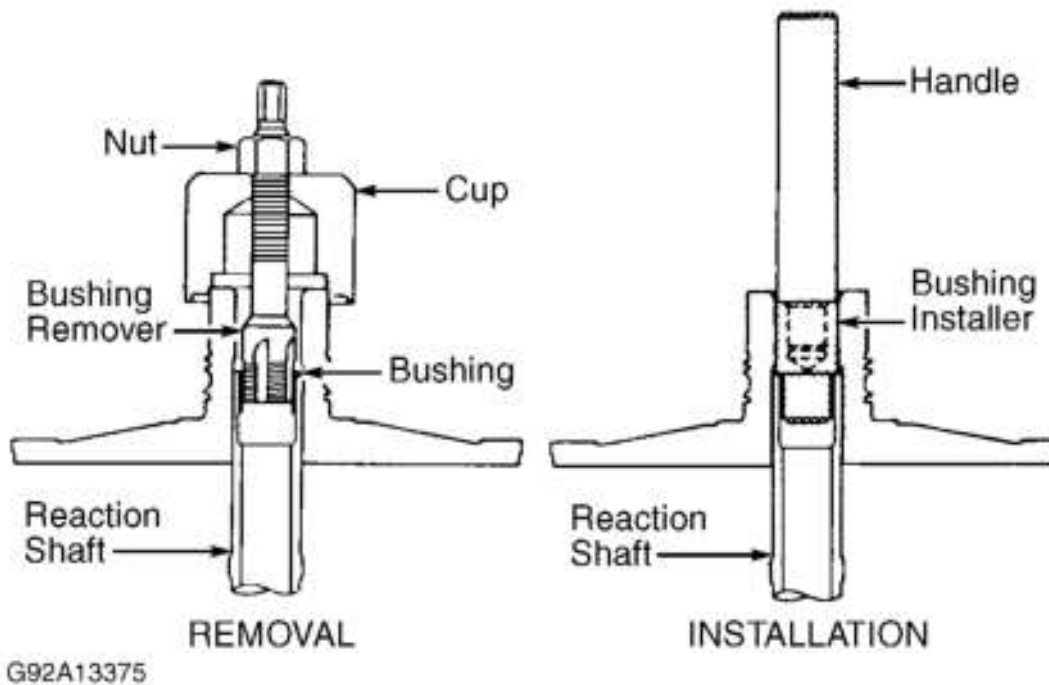

Fig. 19: Removing & Installing Reaction Shaft Support Bushing
shaft support, use Cup (SP-3633), Nut (SP-1191) and Bushing Remover (SP-5324). See **Fig. 19** .
5. Use Handle (C-4171) and Bushing Installer (SP-5325). See **Fig. 19** . Place bushing on bushing installer and start into reaction shaft support. Using hammer, tap bushing into reaction shaft support until bushing installer bottoms. Remove bushing installer. Clean bushing and reaction shaft support.